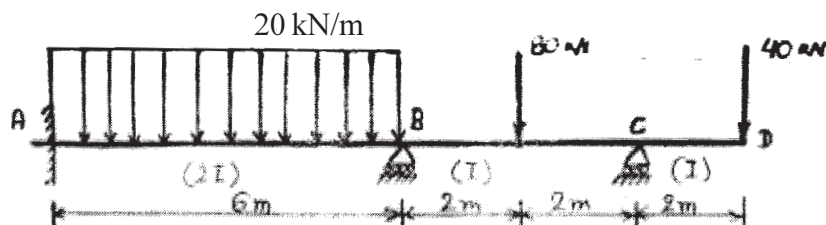

Fig. 1(b)
- b) Analyze the continuous beam loaded and supported as shown in figure 1 (b) by slope - deflection method. The relative moment of Inertia values of all spans are indicated on the beam. Draw bending moment diagram. [8]